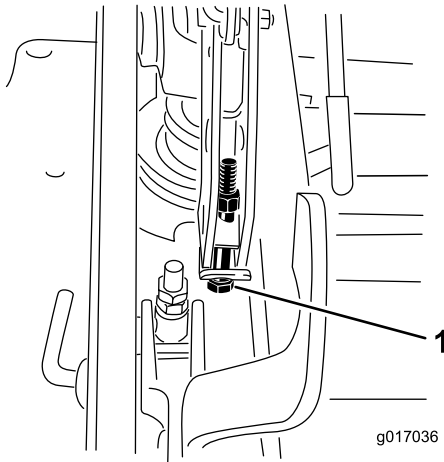

Figure 90
13. If the deck is too low, tighten the single point adjustment bolt by rotating it clockwise. If the deck is too high, loosen the single point adjustment bolt by rotating it counterclockwise (Figure 90).